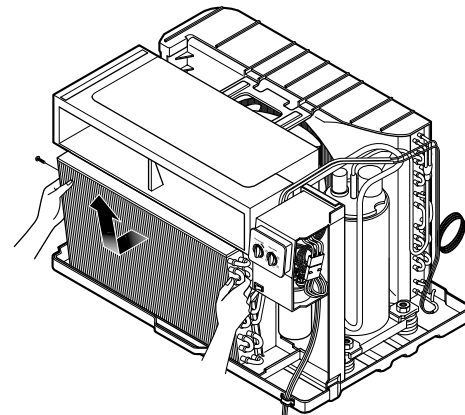

Figure 17
6. Re-install the components by referring to the notes – on pages 13-14. (See Fig. 17)